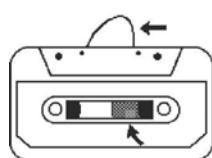

Fig.1
- Check that there are no loose layers of tape visible through the cassette center window (see Fig. 1). Take up any loose layers, using a pencil or hexagonal barreled ballpoint pen, before inserting the cassette into the machine (see Fig.2)